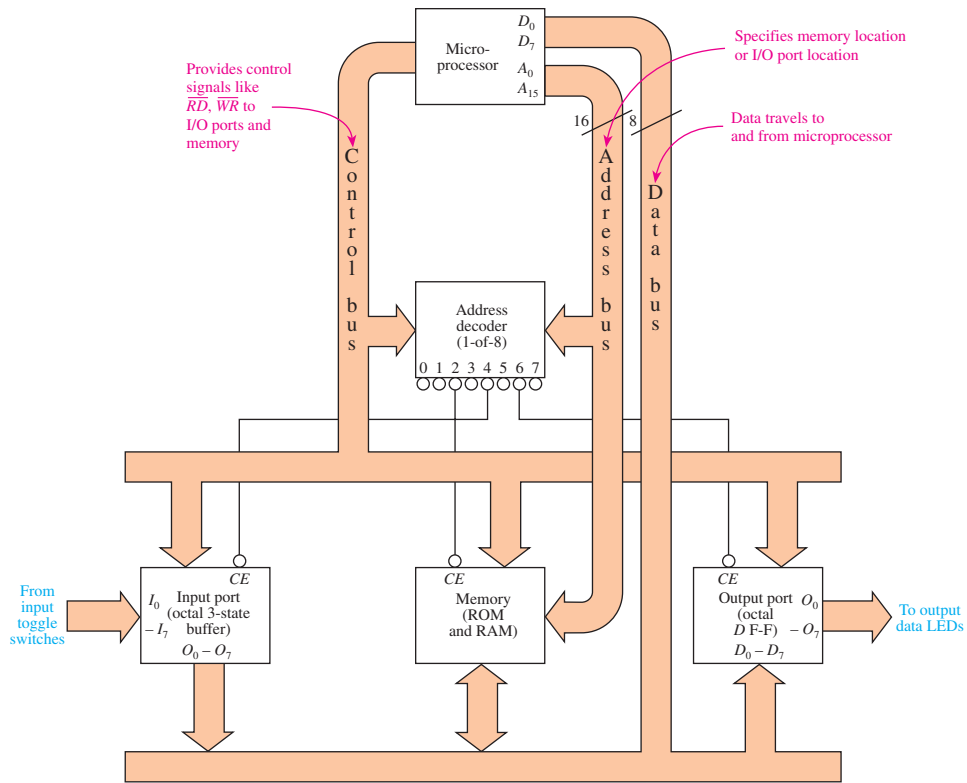
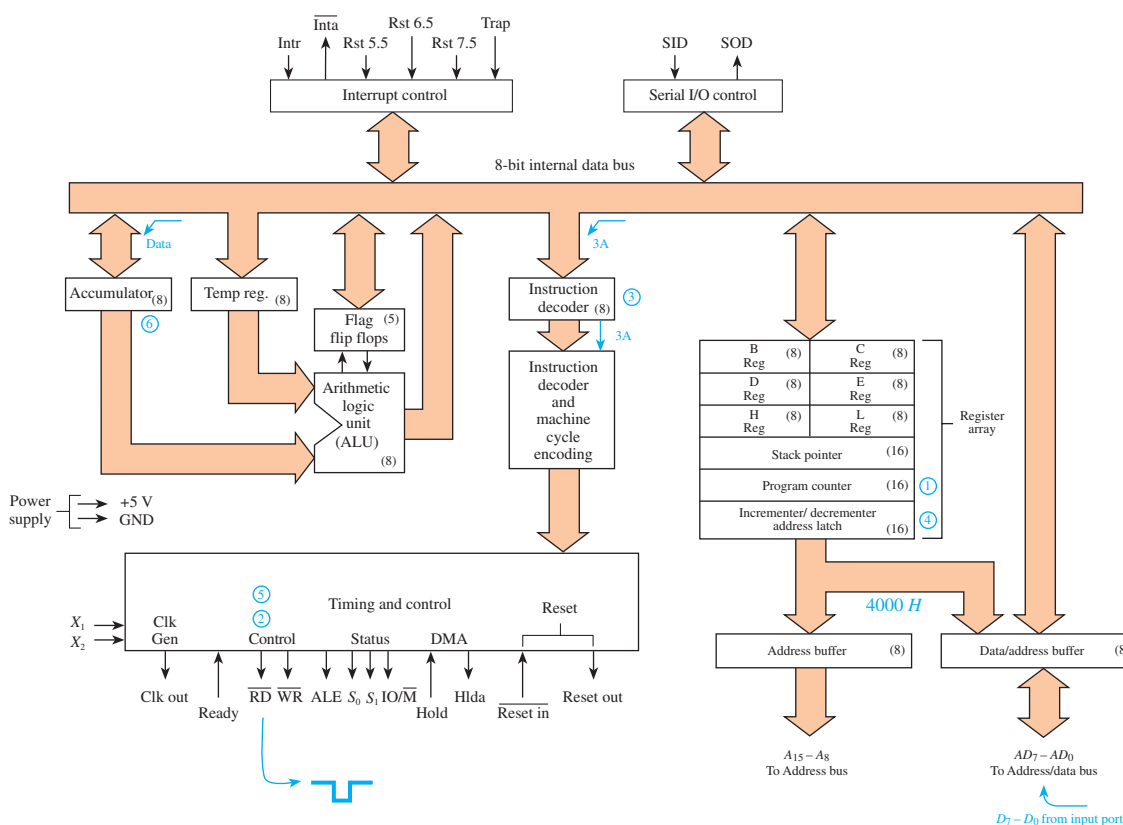

Figure 1 Example of a microprocessor-based system used for simple I/O operations.
Figure 4 Execution of the LDA instruction within the 8085A.
Figure 1 shows a **microprocessor** with the necessary **support circuitry** to perform basic input and output functions. We use this figure to illustrate how the microprocessor acts like a general-purpose device, driven by software, to perform a specific task related to the input data switches and output data LEDs. First, let's discuss the components of the system.
2. How much of the circuitry shown in Figure 1 is contained inside a microcontroller IC?
4. The purpose of the address decoder IC in Figure 1 is to enable two or more of the external ICs to be active at the same time to speed up processing. True or false?
5. The input port in Figure 1 must have *three-state* outputs so that its outputs are floating whenever any other IC is writing data to the data bus. True or false?
6. What would be the consequence of using an octal buffer for the output port in Figure 1 instead of an octal *D* flip-flop?
As a brief introduction to microprocessor software, let's refer back to Figure 1 and learn the statements required to perform some basic I/O operations. To route the data from the input switches to the output LEDs, the data from the input port must first be read into the microprocessor before they can be sent to the output port. The microprocessor has an 8-bit internal register called the **accumulator** that can be used for this purpose.
Now, referring back to the basic I/O system diagram of Figure 1, let's follow the flow of the LDA and STA instructions as they execute in the block diagram of the 8085A. Figure 4 shows the 8085A block diagram with numbers indicating the succession of events that occurs when executing the LDA instruction.
Before studying the flow of execution in Figure 4, we need to make a few assumptions. Let's assume that the input port is at address $4000H$ and the output port is at address $6000H$. Let's also assume that the machine code program LDA $4000H$, STA $6000H$ is stored in RAM starting at address $2000H$.
The sequence of execution of LDA $4000H$ in Figure 4 is as follows:
2. The timing and control unit issue a LOW pulse on the \overline{RD} line. This pulse travels the control bus to the RAM in Figure 1 and causes the contents at location $2000H$ to be put onto the external data bus. RAM ($2000H$) has the machine code $3AH$, which travels across the internal data bus to the instruction register.
4. The address latch and address bus now have 4000H on them, which provides the LOW \overline{CE} for the input port in Figure 1.
6. Those data travel across the external data bus in Figure 1, to the internal data bus in Figure 4, to the accumulator, where they are now stored. The instruction is complete.
4. The address latch and address bus now have 6000H on them, which is the address of the output port in Figure 1.
6. The timing and control unit issues a LOW pulse on the \overline{WR} line. Because the \overline{WR} line is used as a clock input to the *D* flip-flop of Figure 1, the data from the data bus will be stored and displayed on the LEDs. (The \overline{WR} line from the microprocessor is part of the control bus in Figure 1.)